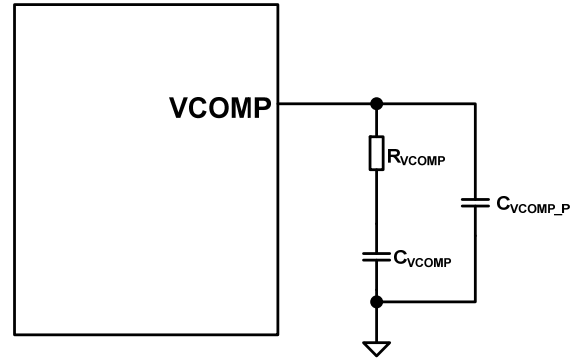

Figure 7: Compensation Network on VCOMP
VCOMP is the compensation node for the system output voltage control loop through the LLC frequency. Connect a capacitor in series with a resistor on VCOMP or an R-C-C network (see Figure 7). The zero composed of the  $R_{ICOMP}$  and  $C_{ICOMP}$  is recommended to cancel the pole formed by the system output. See Equation (11):